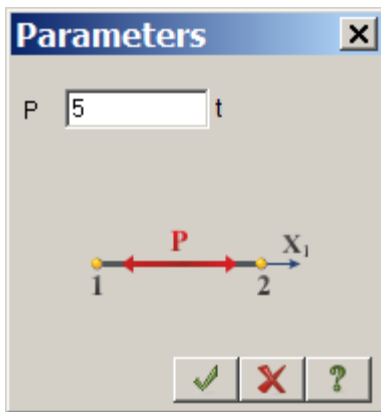

Figure 10.18 Load parameters dialog box
- ⇒ Click the **Load on special element (turnbuckle)** button  and in the **Load parameters** dialog box specify  $P = 5 \text{ t}$  (see Figure 10.18).